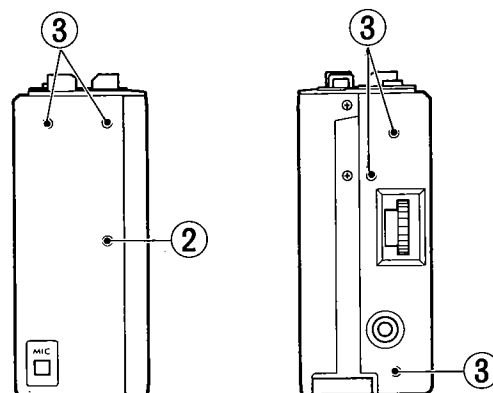

Fig. 23
B. Removal of rear cover ass'y (Figs 23 and 24)
2. Remove screw ② SPSH1720N and 5 screws ③ SPSH1735N from the right and left sides.
3. Remove 2 screws ④ SPSH1735N at the battery cover side and remove the rear cover ass'y from the electret condenser microphone side while pressing in the lever ass'y.